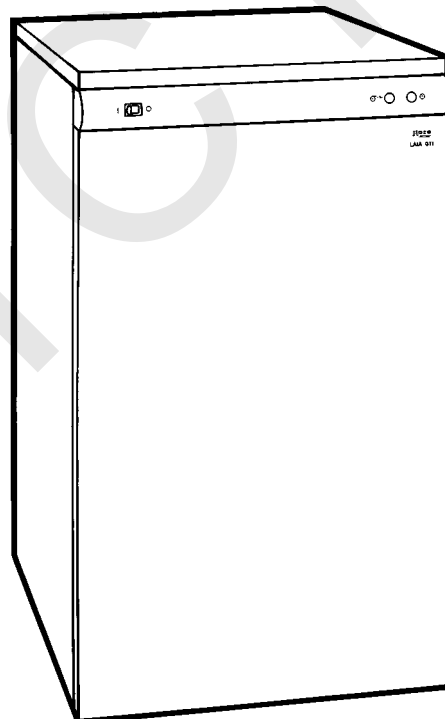

Fig. 1
- * LAIA Heating Units incorporate a burner which ignites for the first time some 6 minutes after the general switch (1) is flicked. Subsequently, ignition is almost instant. Figure 1.
- * With regard to the operation of the programme clock (2) of LAIA GTI-R Heating Units, consult the Instructions provided.
- Adjust the boiler thermostat (3) to between 50°C and 90°C. Move the dial of the ambient thermostat, if any, to the position corresponding to the ambient temperature required.
- Adjust the boiler thermostat for hot tap water (4) to between 40°C (summer) and 60°C (winter).
- Flick the general switch (1). The pilot (5) will light up.
- Use the switch (6) to select "heating/hot water" or "hot water".
- The burner operates under the control of the boiler potentiometer (3). See figure 1.
This module is constituted by two elements: a **portable emitter control** (9) which incorporates a service switch, keypad and loudspeaker, and also a **receiver** (10) for connection to the telephone line, mounted at the control panel (See Figure 1).